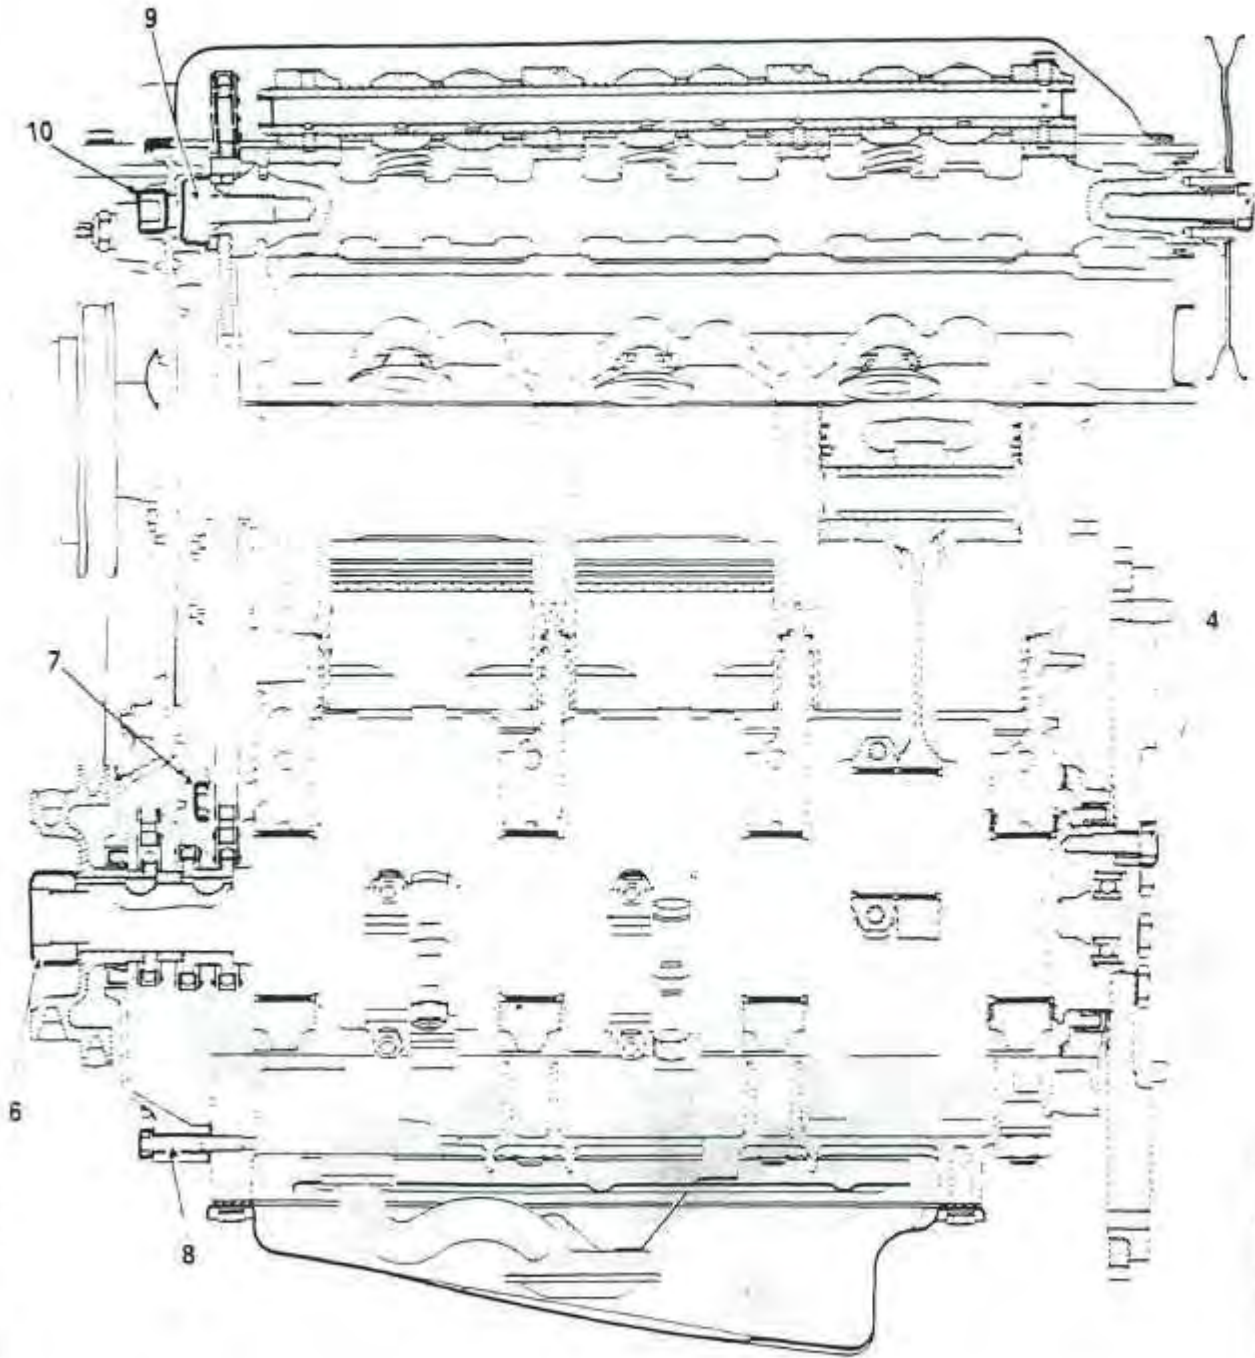

Fig. 3
Remove the bolts securing the protection plate (1) whilst providing alternative support for the tank. *Fig. 3*
Before refitting a fuel tank examine the tank for any signs of damage or chaffing. Replace the tank if there is any doubt about its serviceability. Ensure the foam rubber protection strips are in place and in good condition (2). *Fig. 3*
TIGHTENING TORQUES—Figs. 3 and 4